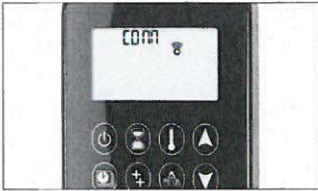

Figure 13: Synchronization in process
Press and hold the receiver's reset button (see figure 15, page 7) until you hear two (2) beeps. After the second, longer beep, release the reset button. Within the subsequent 20 seconds press the (V) button on the handset. Two (2) short beeps confirm the code is set. "E000" is displayed on the handset showing the synchronization (see figure 13). After successful